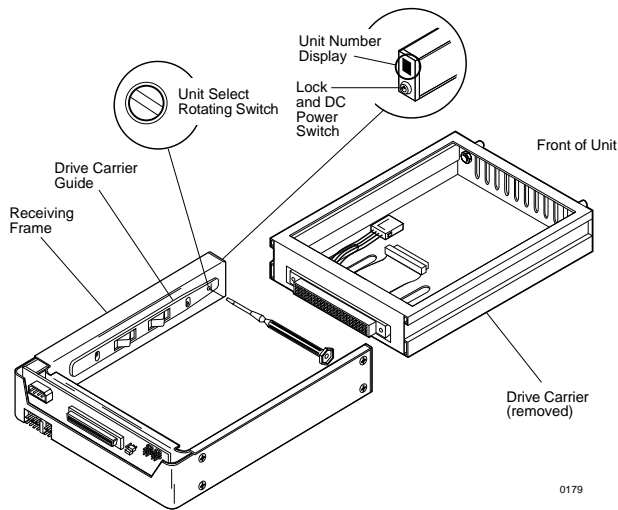

Figure 10: Unit ID Select Switch Location
3. Use the alignment tool supplied with the DE100 to select the ID number of the disk drive. Refer to Figure 10 for the location of the Unit ID Select Switch inside the receiving frame.